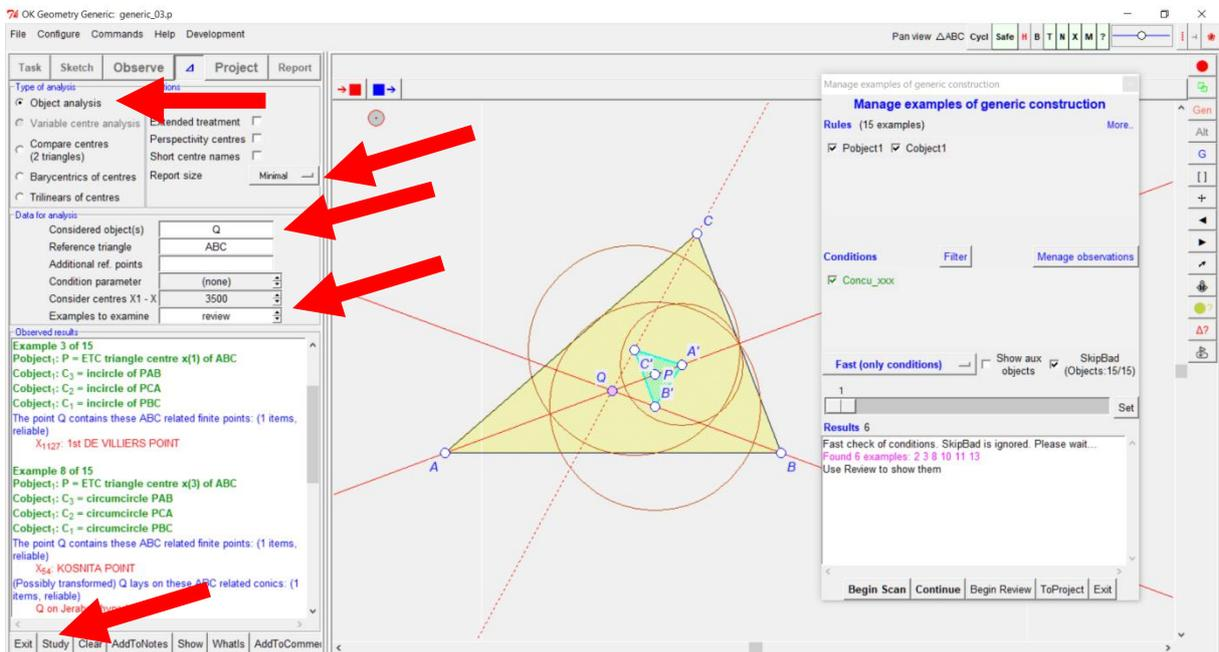

Figure 68
6. Carefully fill some data in the form that appears (Figure 68):